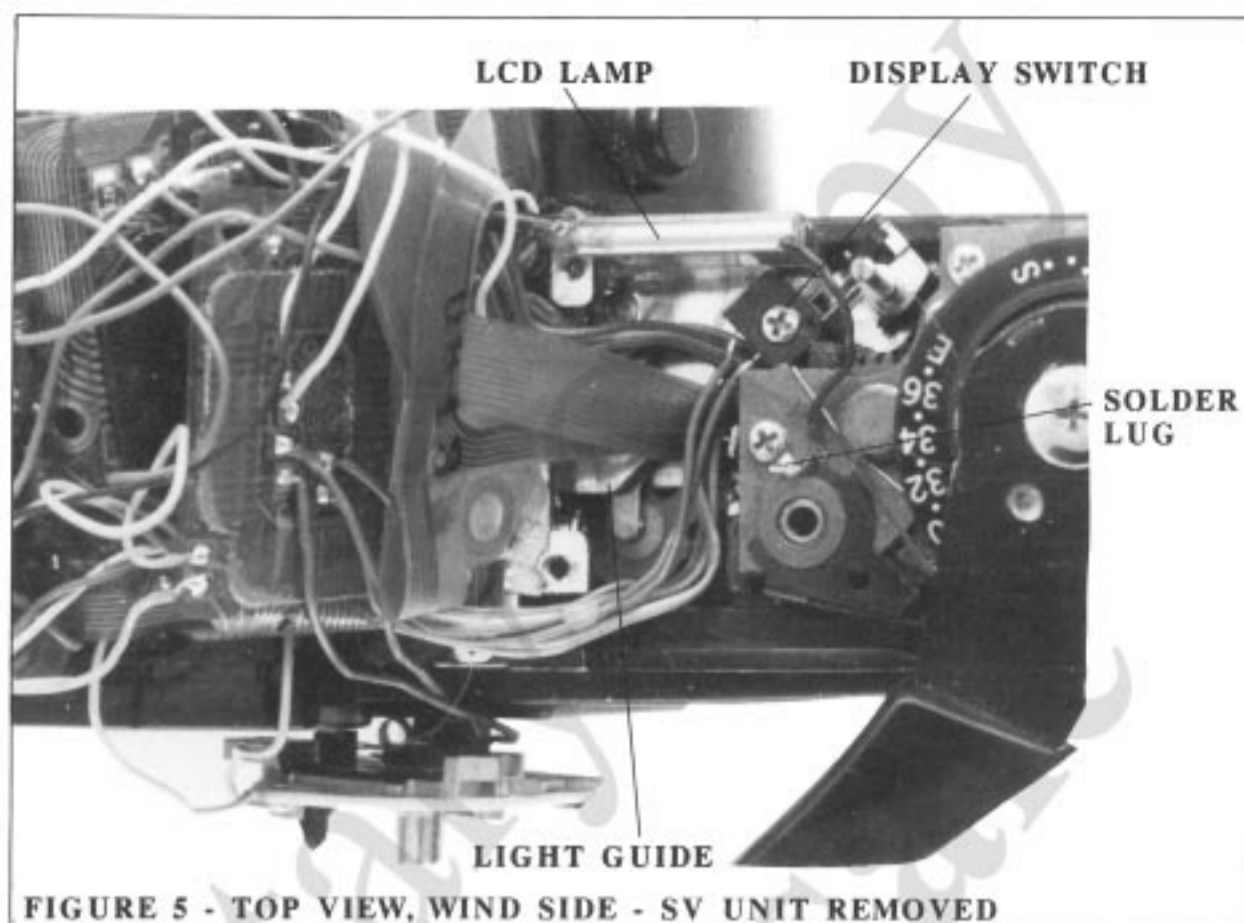

FIGURE 5 - TOP VIEW, WIND SIDE - SV UNIT REMOVED
7. SW202. Exposure-compensation switch on underside of SV board, Fig. 5. Closes when the film-speed dial is set to an exposure-